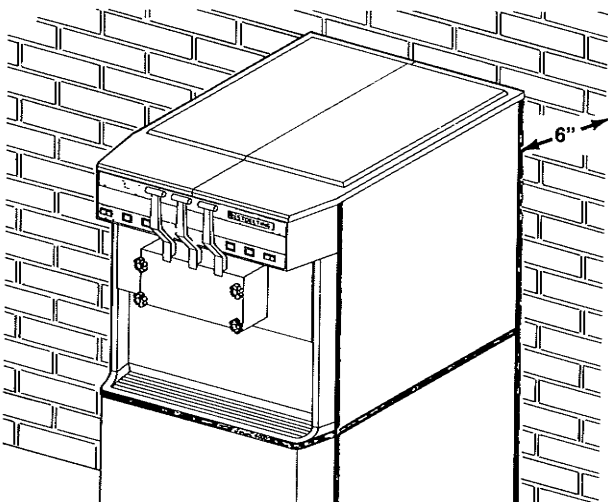

Figure 4. Space and Ventilation Requirements
- A. The freezer requires adequate ventilation. A minimum of 6" (15 cm) of vent space is required for free flow of cooling air at the front and back and on side(s) with louvered panel(s) (Fig. 4).